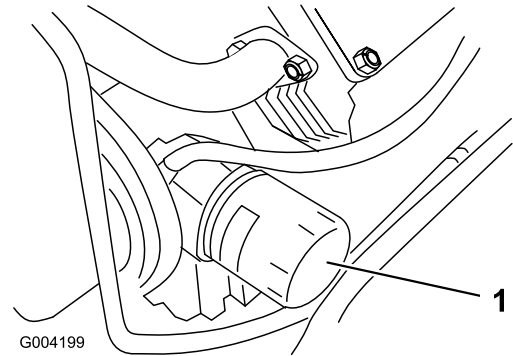

Figure 33
3. Remove the old filter (Figure 33) and wipe the surface of the filter adapter gasket.